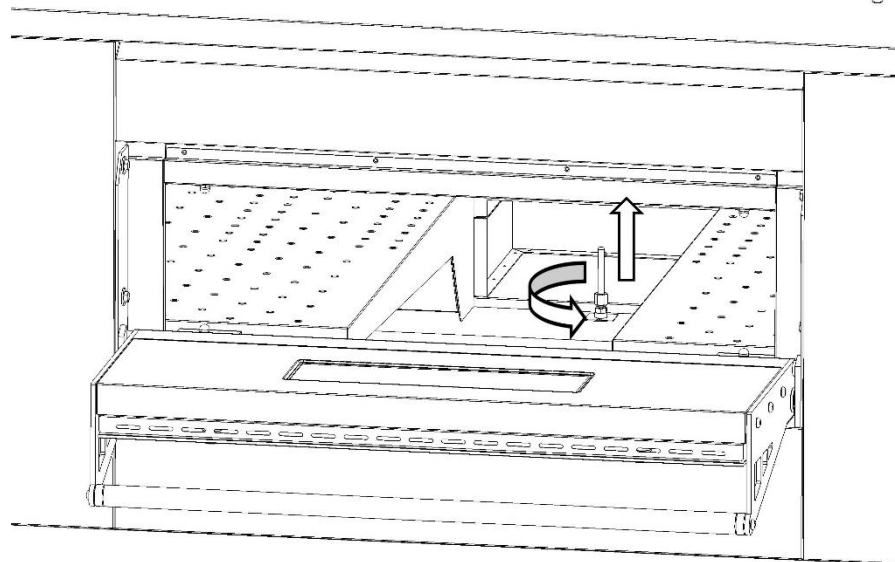

Fig.9B
- 7.Using a wrench 12 loosen the mounting nut of the support and remove the probe (Fig.9B).